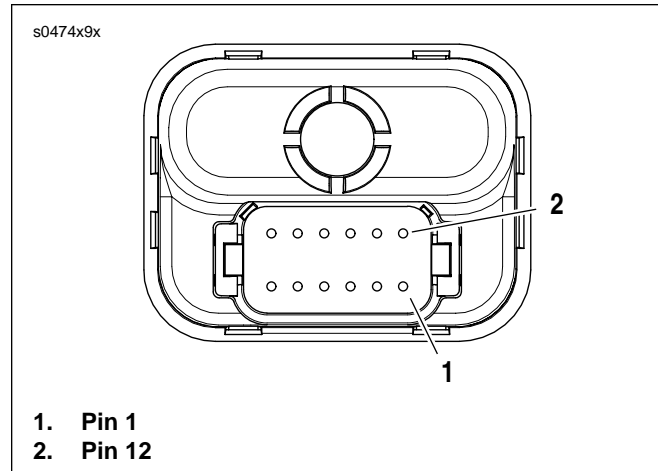

Figure 3-10. TSM/TSSM Connector Pins
2. See Figure 3-10. Depress latches on connector [30B].
1. See Figure 3-10. Depress latches on connector [30B].